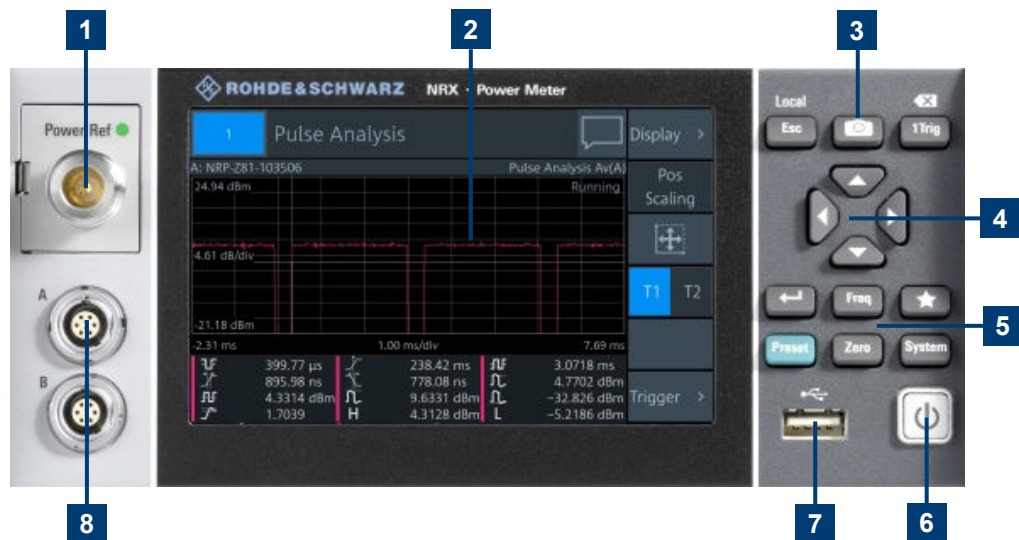

Figure 3-3: Front panel of the R&S NRX
See (8) in Figure 3-3.
See (1) in Figure 3-3.
See (2) in Figure 3-3.
See (3, 5) in Figure 3-3.
See (4) in Figure 3-3.